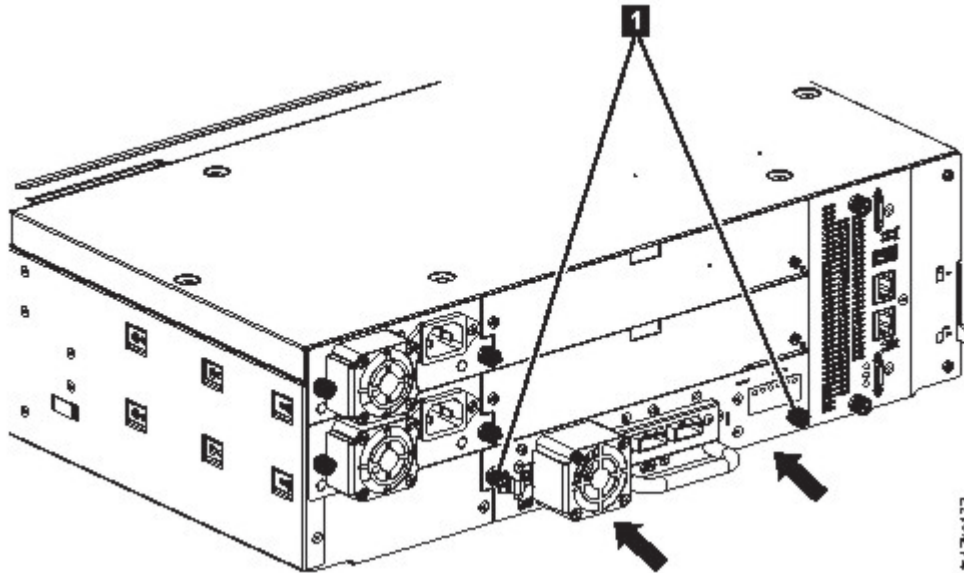

Figure 61. Installing a tape drive
3. Tighten the captive thumbscrews (**1** in Figure 61 on page 108) with your fingers until the tape drive is secure.